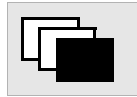

Figure 59 The Miscellaneous window key.
2. Choose the **Miscellaneous** window (see Figure 59).